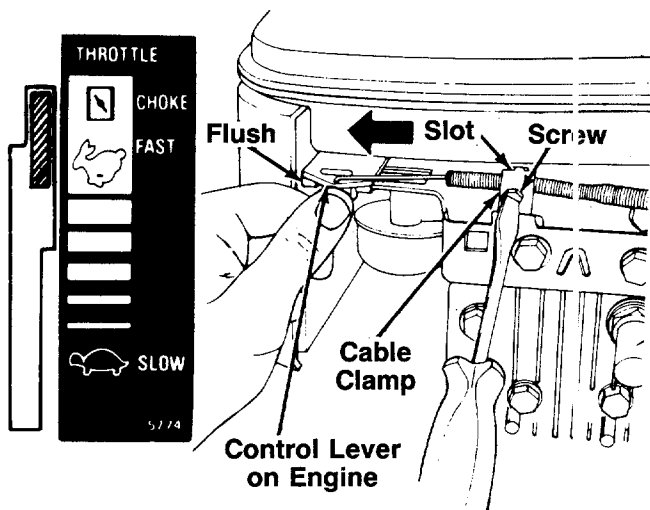

FIGURE 6A.—Model 816R
1. Push the throttle control lever on the handle all the way forward to CHOKE position. See figure 6A.
2. The throttle control cable is attached to the upper handle. Route the throttle control cable under the lower handle and to the outside of the handle wheel bracket assembly and height adjustment lever. Hook the "Z" end of the throttle control cable into the hole in the control lever on the engine. See figure 6A.
3. Using a 5/16" wrench or nutdriver, remove the screw on the cable clamp shown in figure 6A. Slip the control cable under the clamp. Replace the screw (cable should be above the screw), but do not tighten screw (cable must still move freely beneath the clamp). Make certain the tab on the cable clamp is seated into the slot on the engine.
4. Push the control lever on the engine as far toward the **outside** of the engine as it will go. The edge of the control lever should be flush with the bracket on the engine. See figure 6A. Hold the control lever in this position as you tighten the screw on the cable clamp to secure the throttle cable.